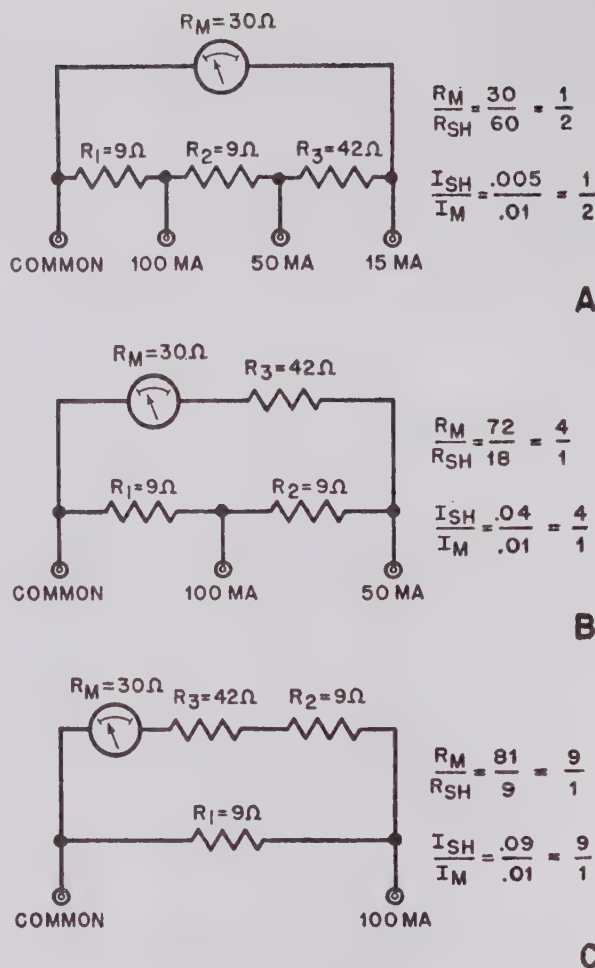

Figure 18. Ring shunt ammeter.
- (1) Many commercial milliammeters use a tapped or ring shunt in place of separate shunts. In this arrangement, some of the resistance may be in series with the meter movement and some in parallel, depending on the range (fig. 18). For example, on the lowest range, 0 to 15 ma, all of the shunt resistors, R_1 , R_2 , and R_3 are in parallel with the movement, as in A. On the next range, 0 to 50 ma, R_3 is in series with the movement and R_1 and R_2 are in parallel with the movement, as in B. On the highest range, 0 to 100 ma, R_2 and R_3 are in series with the movement, and R_1 is in parallel with the movement, as in C. Ring shunts have an advantage over separate shunts, since part of the total resistance is placed in series with the movement; therefore the parallel resistors do not have to be as low in value.
- (4) To solve ring shunt problems, the value of the entire shunt resistance is found by the shunt formula R_{SH} equals $I_M R_M / I_{SH}$, and the individual shunt values in the ring are found by using the formula R_{SH} equals $R_T I_M / I_T$.
- (5) For example, find the value of each resistor in the ring shunt of figure 18. The meter has a 10-ma, 30-ohm movement. First, it is necessary to find the value of the whole shunt, or R_1 plus R_2 plus R_3 . On the 15-ma scale, all the resistors are in series (R_1 plus R_2 plus R_3) and act as a shunt to the meter movement. Using the old shunt formula,